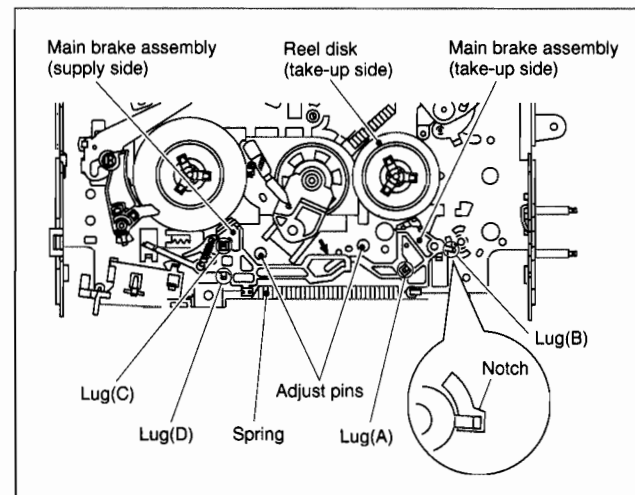

Fig. 2-2-37
- (1) Move the main brake assembly (take-up side) in the arrow-indicated direction and remove the reel disk (take-up side).
- (2) Remove the spring attached to the main brake assembly.
- (3) Remove the lug (A) of the main brake assembly (take-up side) and pull out the lug (B) after bringing it into alignment with the main deck notch.
- (4) Remove the lugs (C), (D) and (E) of the main brake assembly (supply side) from the main deck and pull them off. (See Fig. 2-2-37.)